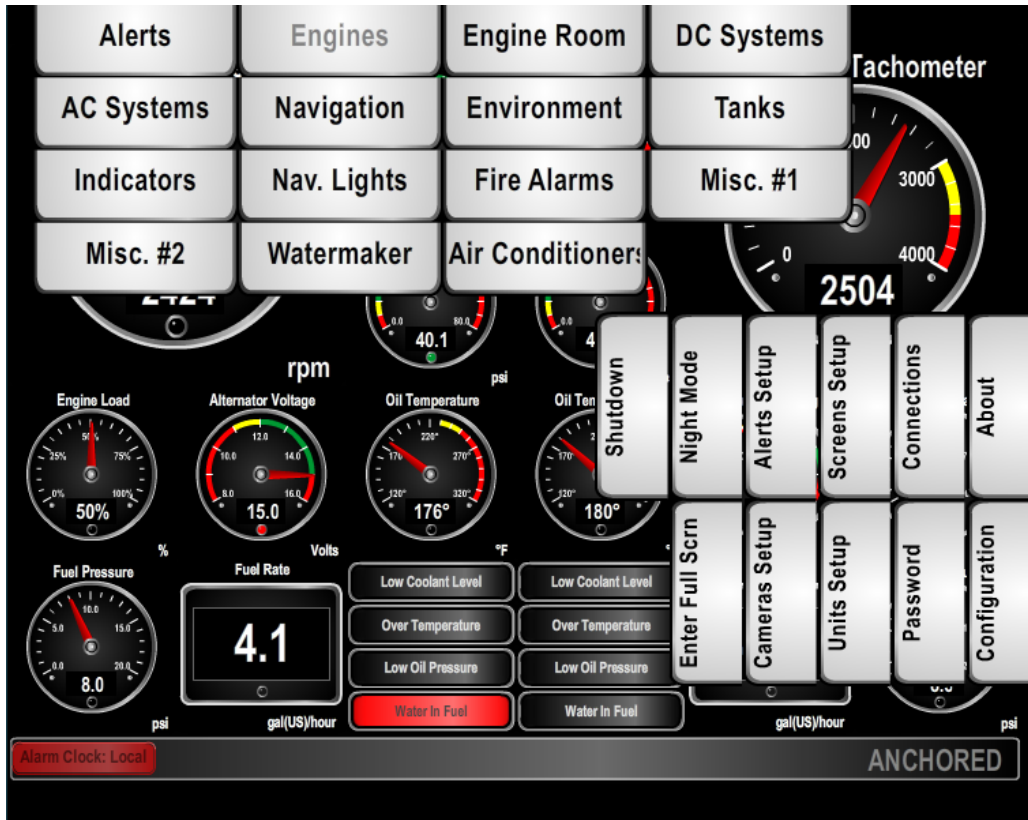

Figure 12 – N2KView® Window with Tabs Displayed
- a. Click anywhere inside the N2KView® screen to display the screen tabs as shown in Figure 12 above.